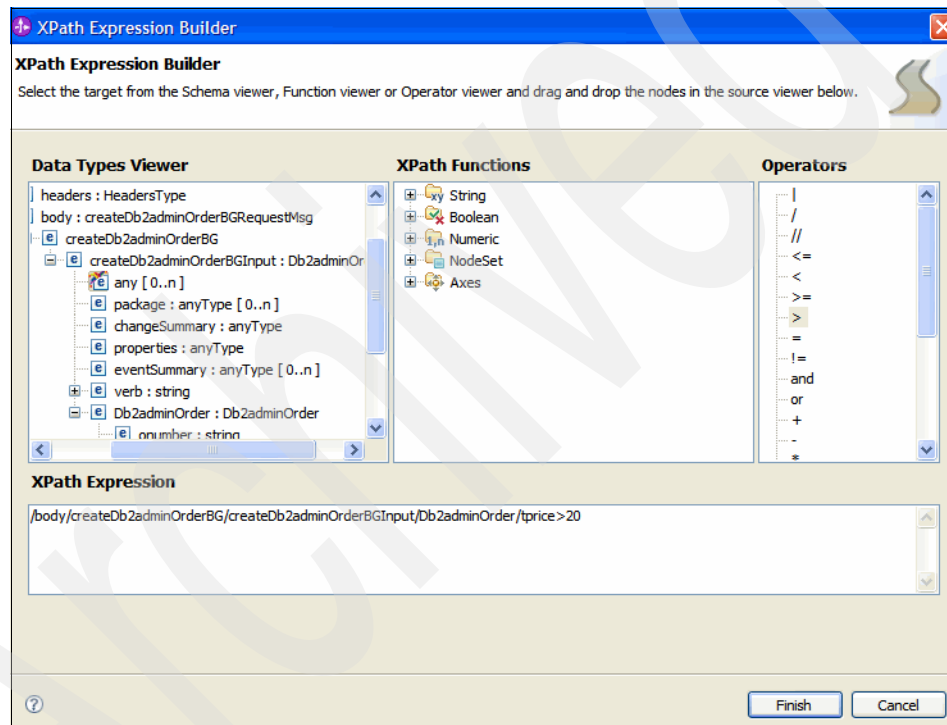

Figure 6-83 XPath Expression Builder
6. In the XPath Expression Builder window (Figure 6-83), create a filter for filtering out large orders: